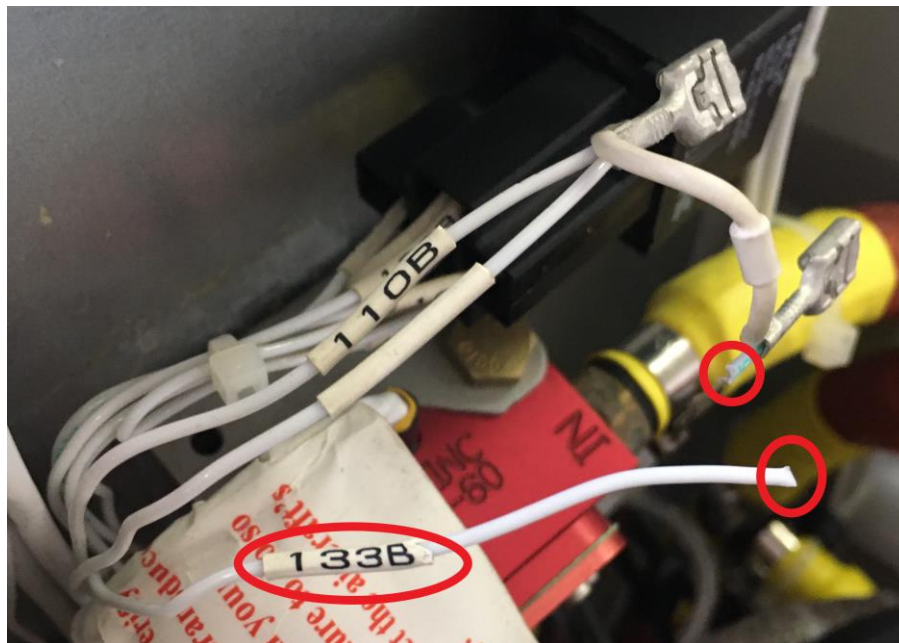

Fig. 18: Marked wire
16) Cut the end of wire 133B. (See Fig. 18)